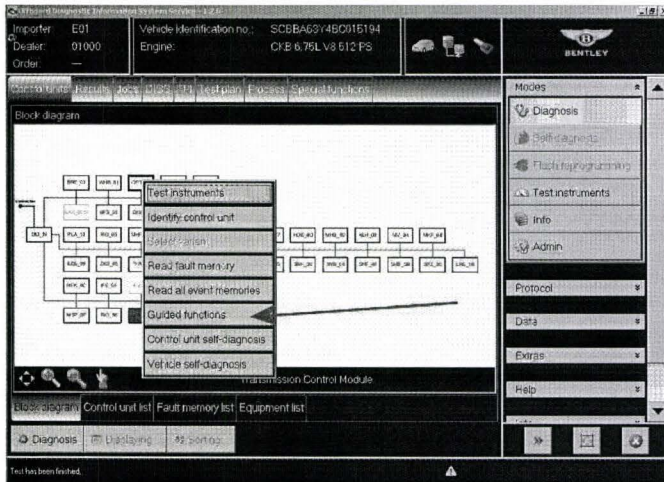

Figure 9
- From the drop down menu shown in Figure 9 select - Guided functions